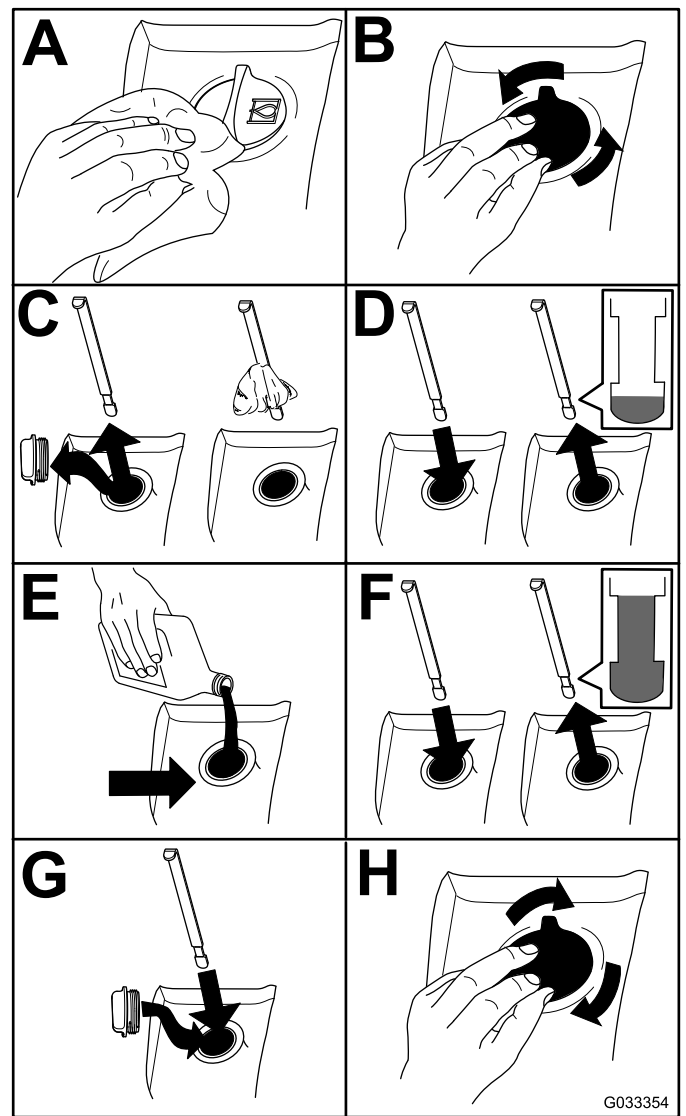

Figure 74
2. Check the hydraulic-fluid level (Figure 74).